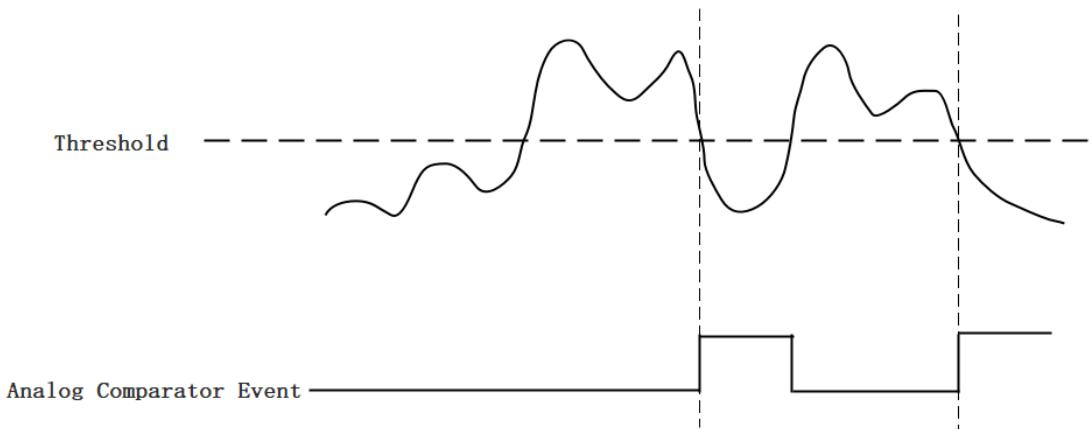

Figure 18 Falling Slope Trigger
*Falling Slope Trigger:* The Edge comparator output is high when the signal goes below the threshold; the output is low when the signal goes above the threshold as shown in Figure 18.